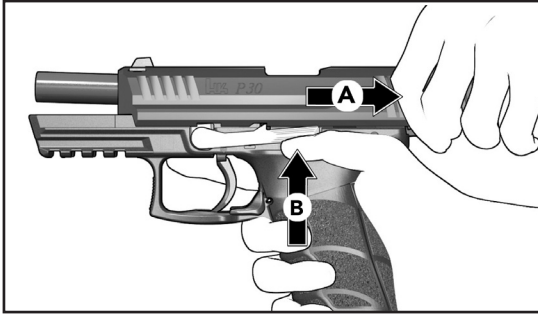

Figure 27 — Pull the slide back and lock it
2. With the magazine removed, pull the slide (A) all the way back and hold it there (see Figure 27).
3. Push the slide release (B) upwards to lock slide back.